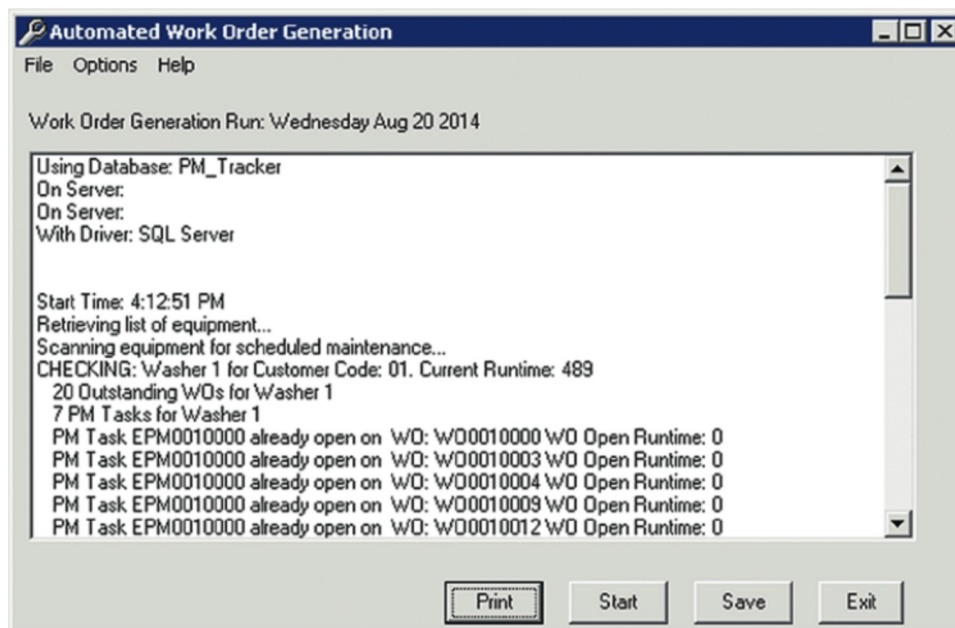

Figure 35. Automated Work Order Generation dialog.
3. Click **Start** (see Figure 35).